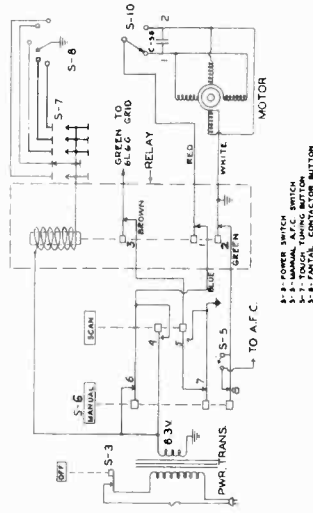

Fig. 2. Schematic of "Touch Tuning" System
The tuning motor is operated as a capacitor type squirrel cage induction motor, with capacitor, C-58 as the phase-shifting device. It is in series with one set of poles when the motor reversing switch is in the position shown in Fig. 2. When the switch S-10 is reversed the capacitor C-58 is in series with the opposite set of poles. This causes the motor field to rotate in the opposite direction with the resultant change in motor rotation.
The motor power is supplied from the tube heater circuit through "Manual" switch (contact No. 6). Fig. 2, the relay (contact No. 1) and the motor reversing switch (S-10) with the sliding contactor (S-8) contacts the button in the circuit segment which is connected to the relay field coil in the circuit. When this contact is made, the relay field coil is energized, causing the relay to open the motor circuit (contact No. 1). At the same time the relay arm also engages the motor clutch, causing the motor to rotate in the opposite direction. Depression of another station button causes another similar cycle.
- (c) If set does not tune automatically unless scan button is depressed, contacts No. 6, Fig. 2, require closer spacing.